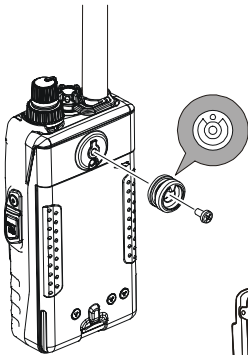

Figure 1
- ❑ Connect the hanger to the rear of the **FT-270R**, with the notch pointing directly up, using the supplied screw (Figure 1). Use only the screw included with the clip to mount the clip to the back of the **FT-270R**.